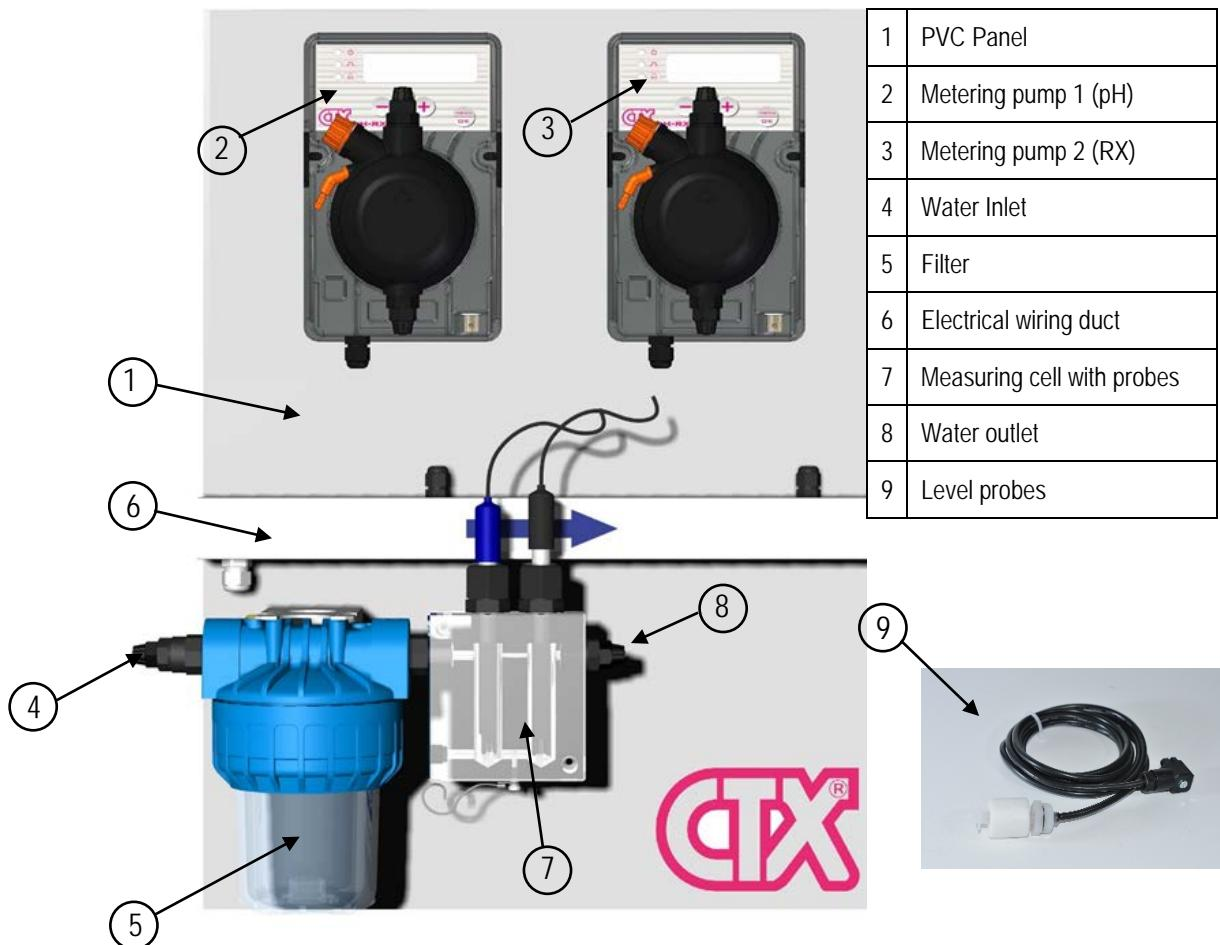

Figure1 – CONTROL PANEL PH-RX
Hereunder is a brief description of how the water flows through the control station and is monitored (to facilitate understanding, refer to Figure1).
The water coming from a shunt of the pool's recirculation system enters through the sampling **water inlet** (Figure1– pos. 5) then flows inside the **water filter** (Figure1– pos. 6), which keeps any impurities or suspended parts, and from there into the unit (Figure1– pos. 7) responsible to check the different chemical/physical values (depending on the type of sensor that is installed), such as the acidity/alkaline properties and oxidation reduction potential. All this is managed by a sophisticated control unit (Figure1– pos. 2) installed on the control station, which, depending on the readings, enables and/or disables the relative devices (Figure1– pos. 3 and 4) connected to it, unless the level switches (Figure1– pos. 10) trigger (if any) placed in the respective suction tanks or (where applicable) the flow sensor (refer to the next paragraph)